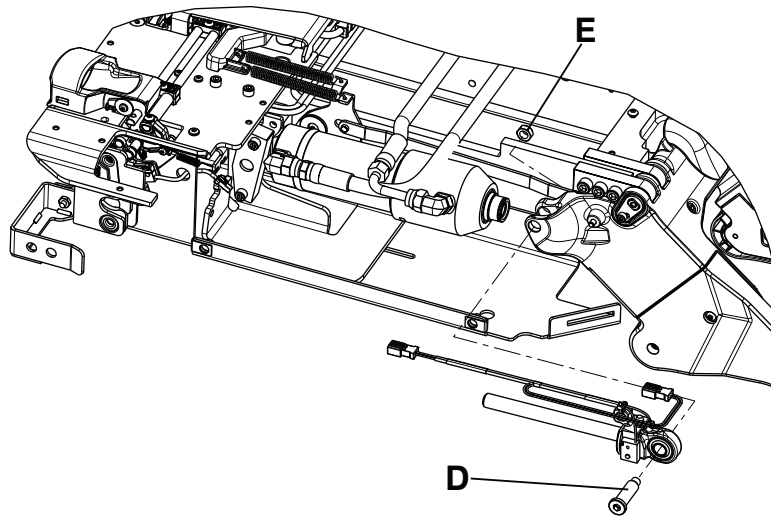

Figure 20 – End cap cylinder pin and nut locations
8. Using a 1/4" hex wrench and a 1/2" combination wrench, remove the end cap cylinder pin (D) and nut (E) (Figure 20). Save the end cap cylinder pin and nut.